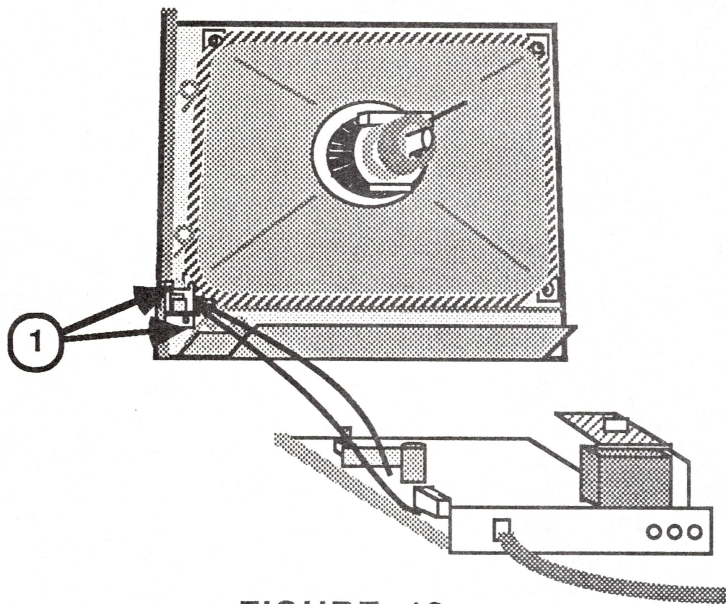

FIGURE 12
- a. Remove the two screws\* that secure the on/off switch bracket to the front bezel (Figure 12, #1).